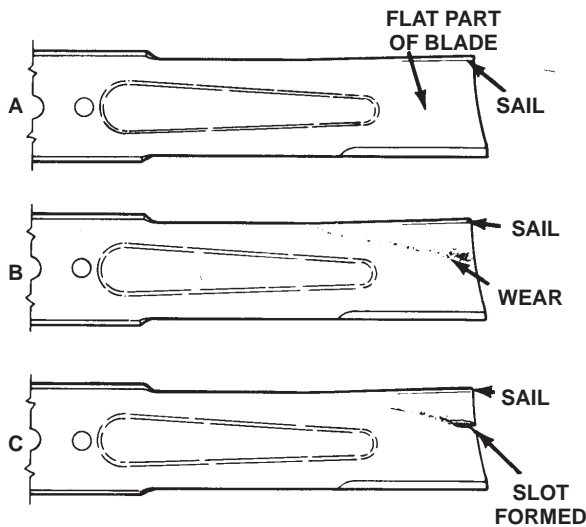

Figure 31
2. Examine the cutting ends of the blade carefully, especially where the flat and curved parts of the blade meet (Fig. 31-A). Since sand and abrasive material can wear away the metal that connects the flat and curved parts of the blade, check the blade before using the machine. If wear is noticed (Fig. 31-B), replace the blade; refer to Removing the Cutting Blade, page 19.
If the blade is allowed to wear, a slot will form between the sail and flat part of the blade (Fig. 31-C). Eventually, a piece of the blade may break off and be thrown from under the housing, possibly resulting in serious injury to yourself or bystanders.